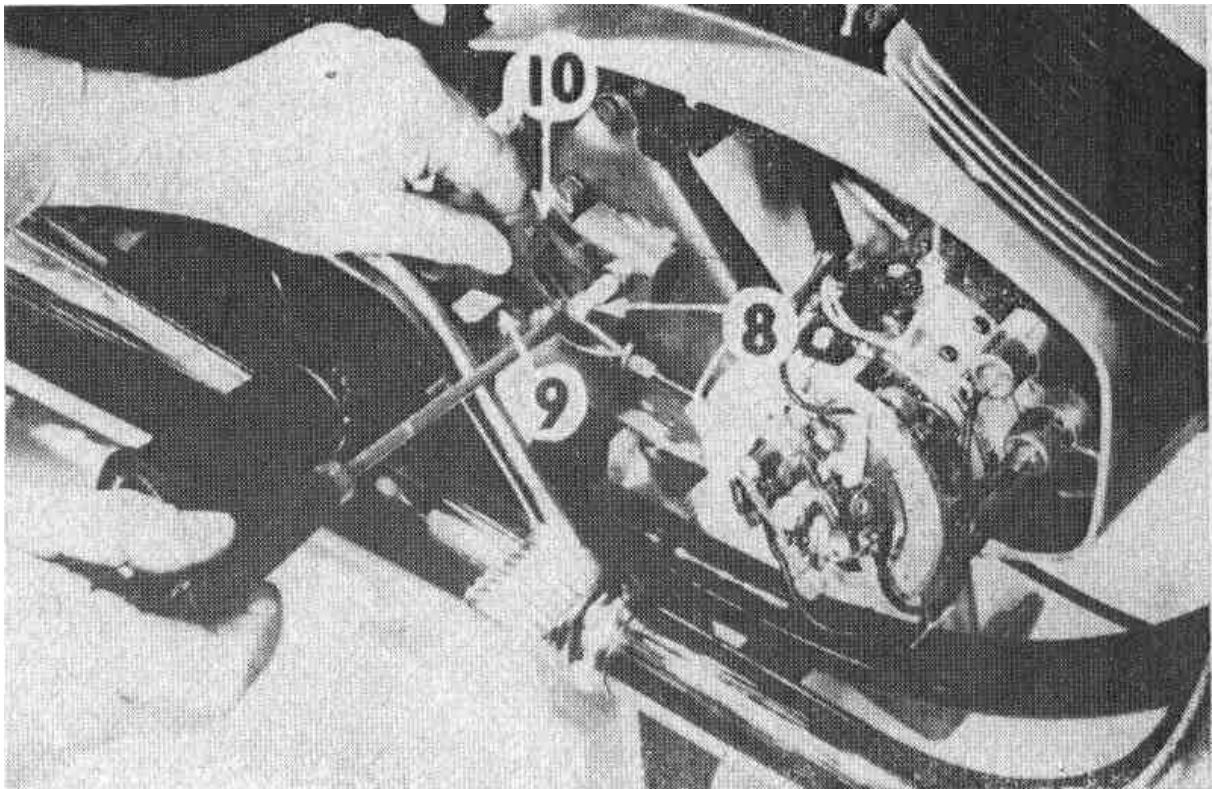

Fig. 21 – Clutch adjustment
7. CLUTCH AND ITS ADJUSTMENT (Fig. 21)